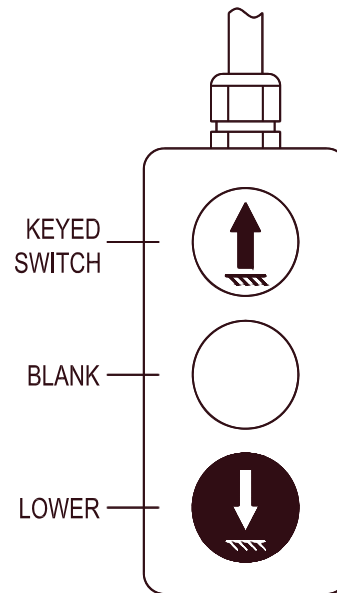

Fig. 19 – Pendant Switches
- 55) After wiring is complete, test the function of all switches (Overhead limit switch and two pendants with Raise and Lower buttons), see Fig 19.